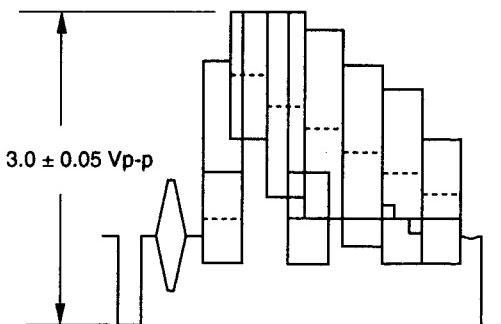

Fig. 5-2-2
- Adjust VR2 so that the Video signal level becomes 3.0 ± 0.05 Vp-p as shown in the Fig. 5-2-2.